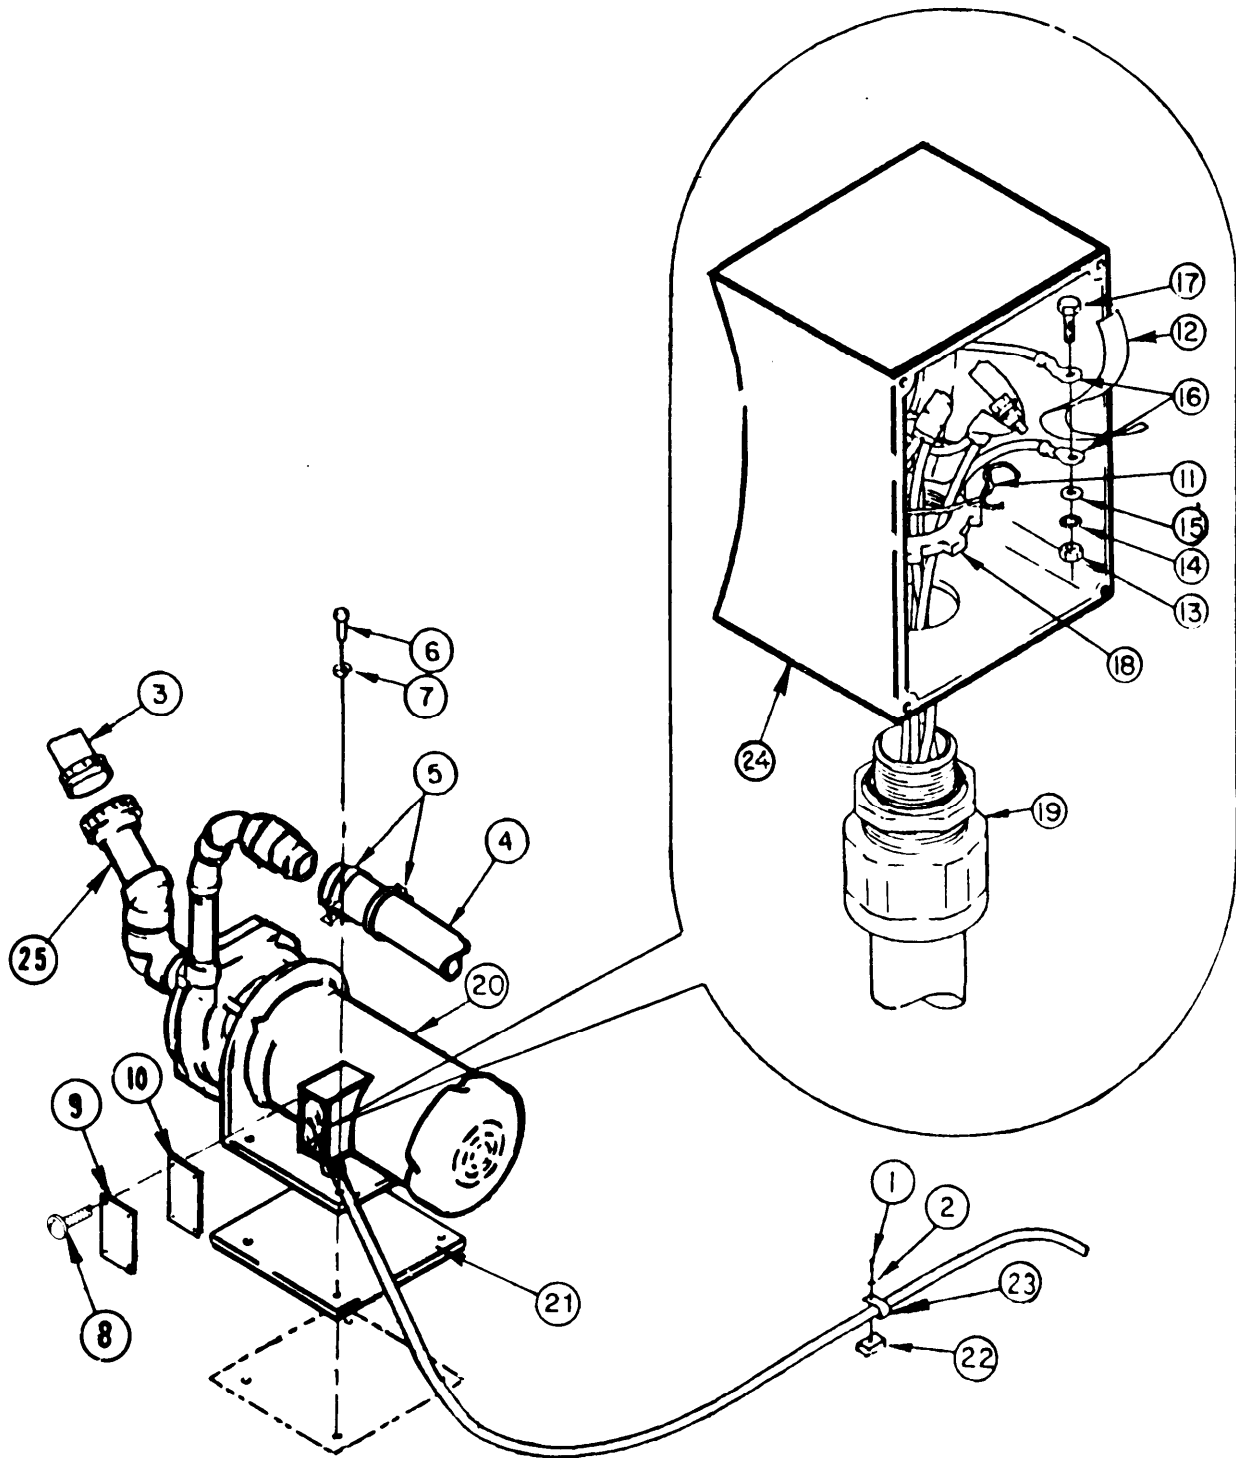

Figure 2-51. Booster Pump Assembly
b. Removal. (Figure 2-51)
(1) Replace damaged or worn flexible hose.
(2) Replace all hose clamps and gaskets.
(3) Replace damaged or worn electrical cable.
(4) Replace all damaged screws, nuts, bolts, and washers.
(5) Replace damaged or unserviceable booster pump.
(6) Send damaged booster pump to Direct Support Maintenance for repair.
(7) Spacer plate may be welded for repair. If severely damaged, replace.
f. Installation. (Figure 2-51)
- (1) Install input pipe (25) in booster pump (20).
If conduit box cover is in place, remove four screws (8), (figure 2-51), conduit box cover (9), and gasket (10) from conduit box (24).
- (3) Slip cable grip (19) over cable.
- (4) Insert tagged wires through hole in conduit box (24).
- (5) From inside conduit box (24), slip cable grip nut (18) over wires and mount cable grip (19) to conduit box (24).
- (6) Slip tagged wire lugs (16) over screws (17) on each set of wires.
- (7) Install flat washer (15), lockwasher (14), and nut (13) on screw (17) for each set of wires.
- (8) Remove tags.
- (9) Wrap each screw and wire lug assembly with tape (12).
- (10) Using twine (11), tie wires into bundle.
- (11) Carefully compress wire bundle into back of conduit box (24).
- (12) Hold conduit box cover (9) and gasket (10) in place.